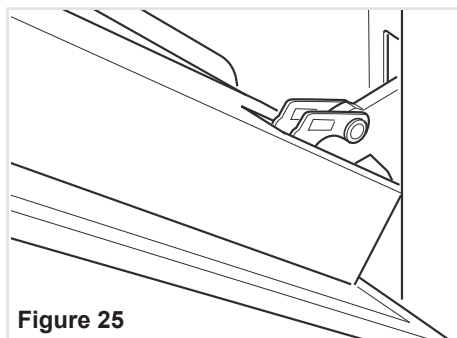

Figure 25
1. Make sure the door is locked open (see fig. 25).